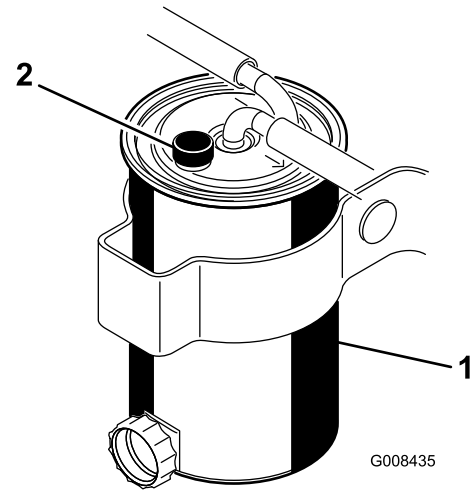

Figure 35
2. Open the breather valve, on top of the canister, until fuel leaks out (Figure 35).